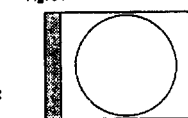

Fig. 35
- 4:3 for normal ratio 4:3 (See Fig. 35).